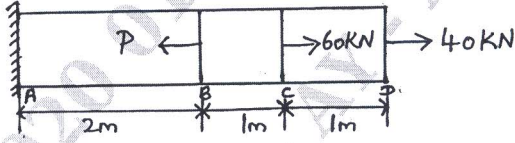

Fig Q2(c) (10 Marks)
- c. Determine the magnitude of the load P necessary to produce zero net change in the length of the straight bar shown in Fig Q2(c). Take Area = 400mm2.